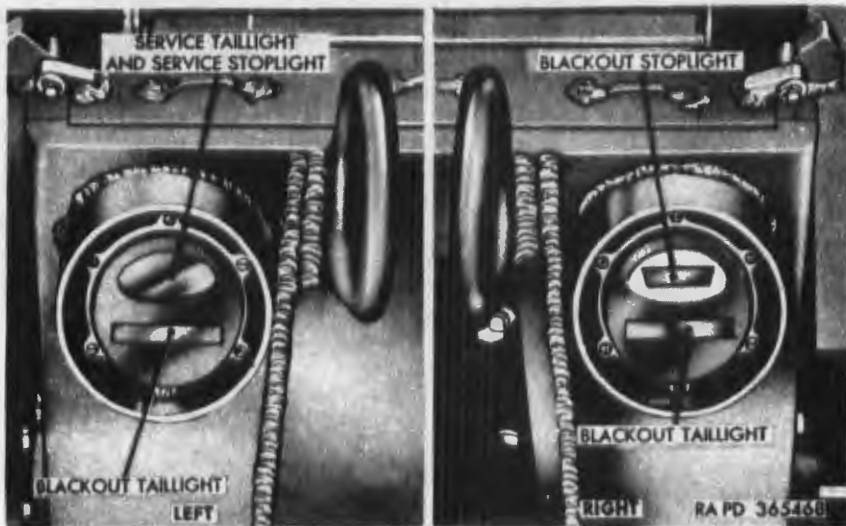

Figure 151. Left and right taillights.
g. Taillights (fig. 151). The taillights are mounted in circular guards welded on the hull rear plate. The left taillight contains the service tail lamp and service stop lamp in the upper section and the blackout tail lamp in the lower section. The right taillight contains the blackout stop lamp in the upper section and the blackout tail lamp in the lower section.
- (2) *Installation.* Install a 24–28 volt, 3-candlepower, bayonet-base lamp in the blackout stop, blackout tail, and service taillight positions; or a 24–28 volt, 32-candlepower, bayonet-base lamp in the service stoplight position (fig. 151). Press in on lamp and turn in a clockwise direction to secure lamp in socket. Perform test ((3) below) then position taillight door on light body and be sure the gasket is in place. Secure with six roundhead screws with retainer rings.
- (3) *Test.* Station man at rear of vehicle and turn master relay switch (E, fig. 15) on and light switch in instrument panel to STOP LIGHT position. Depress brake pedal to determine if service stop lamp in left taillight is operative. Release brake pedal, and turn main light switch to BO DRIVE position, depress pedal to determine if blackout stop lamp in right taillight (fig. 151) is operative. Turn main light switch to BO MARKER position; blackout marker lamps in both taillight (fig. 151) should light. Turn main light switch and master relay switch to their off positions.